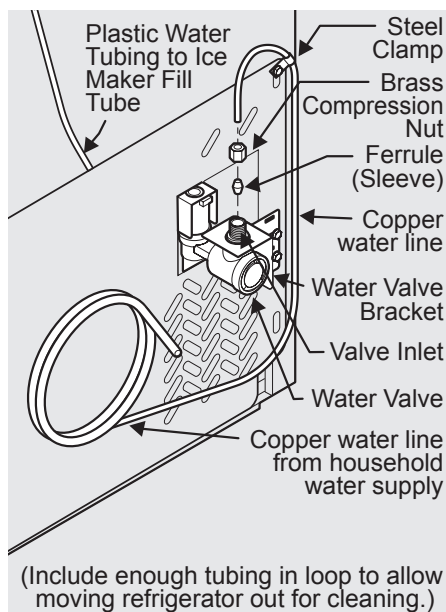

Figure 1
4. **If you use copper tubing** - Slide brass compression nut, then ferrule (sleeve) onto water supply line. Push water supply line into water valve inlet as far as it will go ($\frac{1}{4}$ inch / 6.4 mm). Slide ferrule (sleeve) into valve inlet and finger tighten compression nut onto valve. Tighten another half turn with a wrench; DO NOT over tighten. See Figure 1.